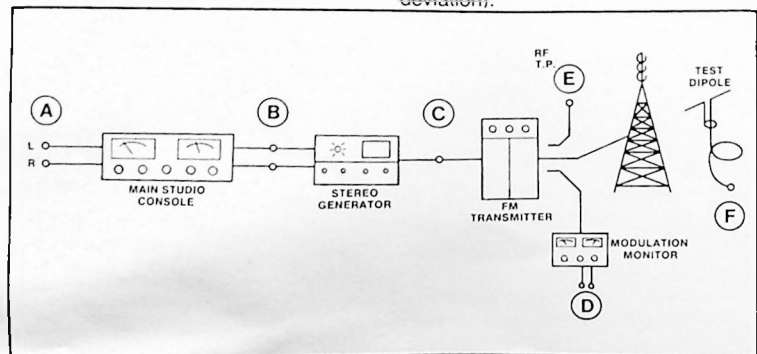

Fig. 14. Typical Fm Station Block Diagram Showing Test Points for Performance Tests
Test points for the performance measurements should be located in the station as shown in figure 14. The 5L4N audio frequency Spectrum Analyzer should be connected to the output of the modulation monitor (test point ⑥). The microphone input in the main control room should also be accessible (test point ②). The test equipment should be well grounded, and shielded cable should be used for all connections. If it is not possible to locate the generator and analyzer in the same room (such as when an *stl* is used) then locate the generator in the control room and place the modulation monitor at the transmitter site along with the audio frequency spectrum analyzer.